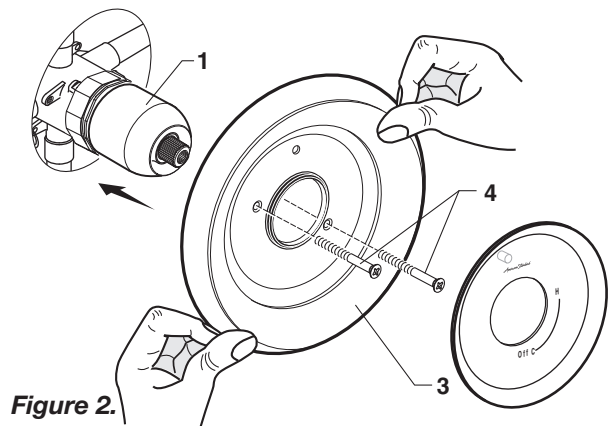

Figure 2.
- **Figure 2.** Push ESCUTCHEON (3) onto CAP (1) and attach to valve body with LONG SCREWS (4).